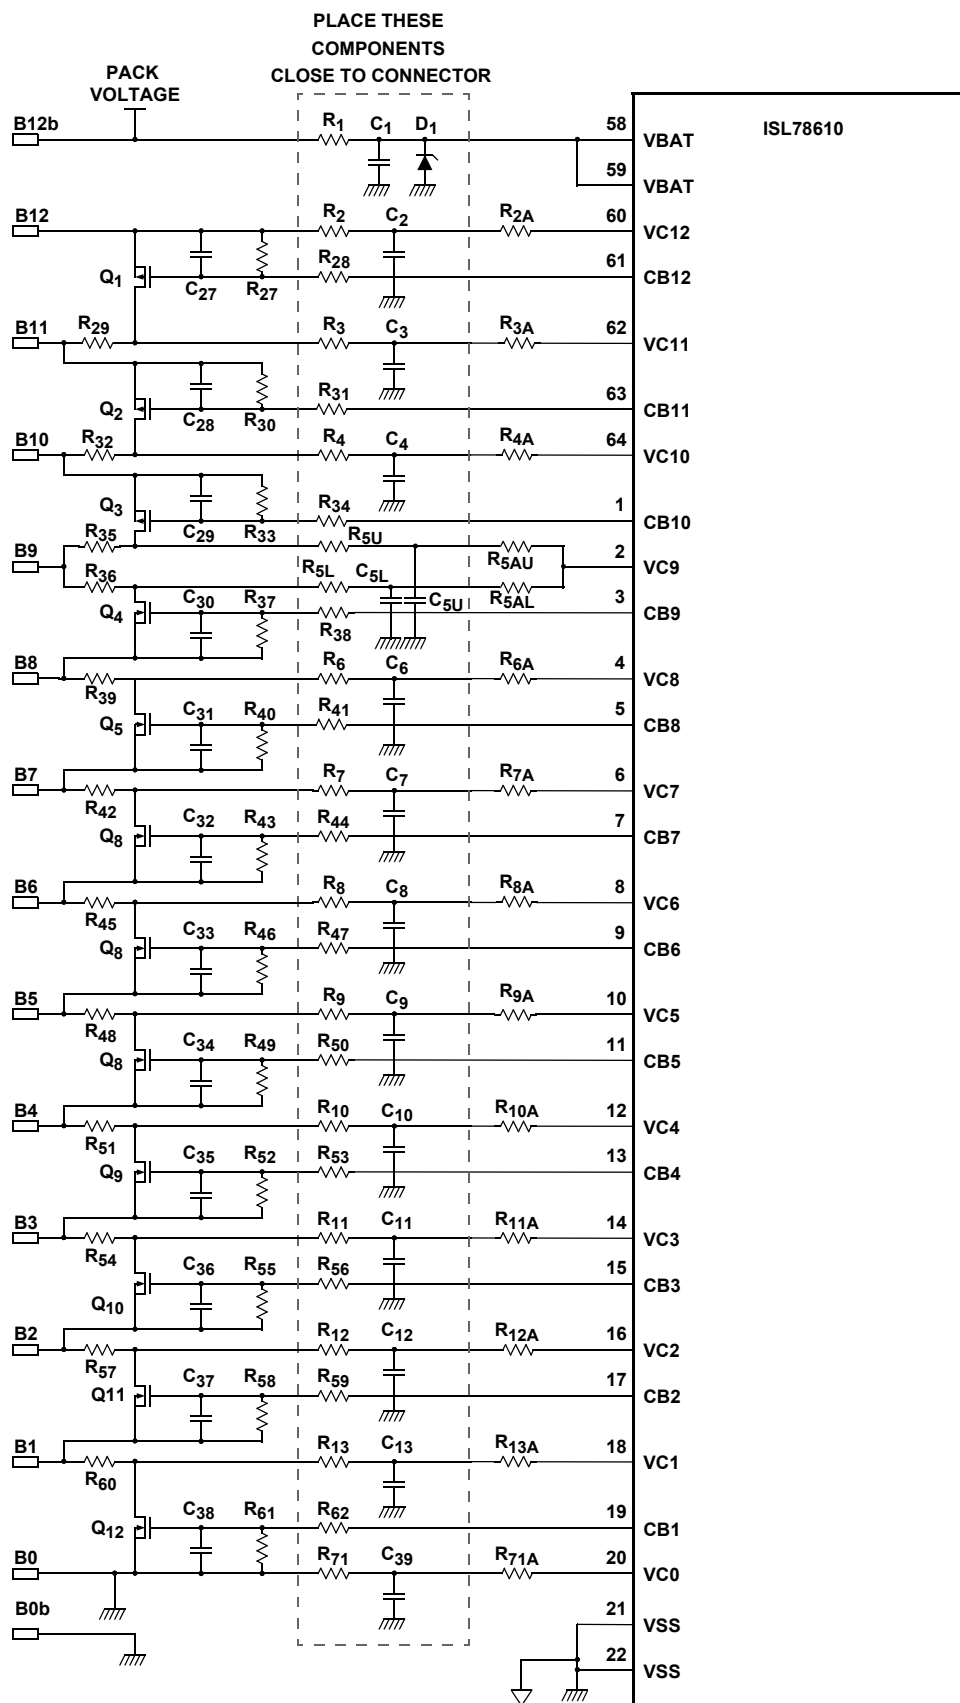
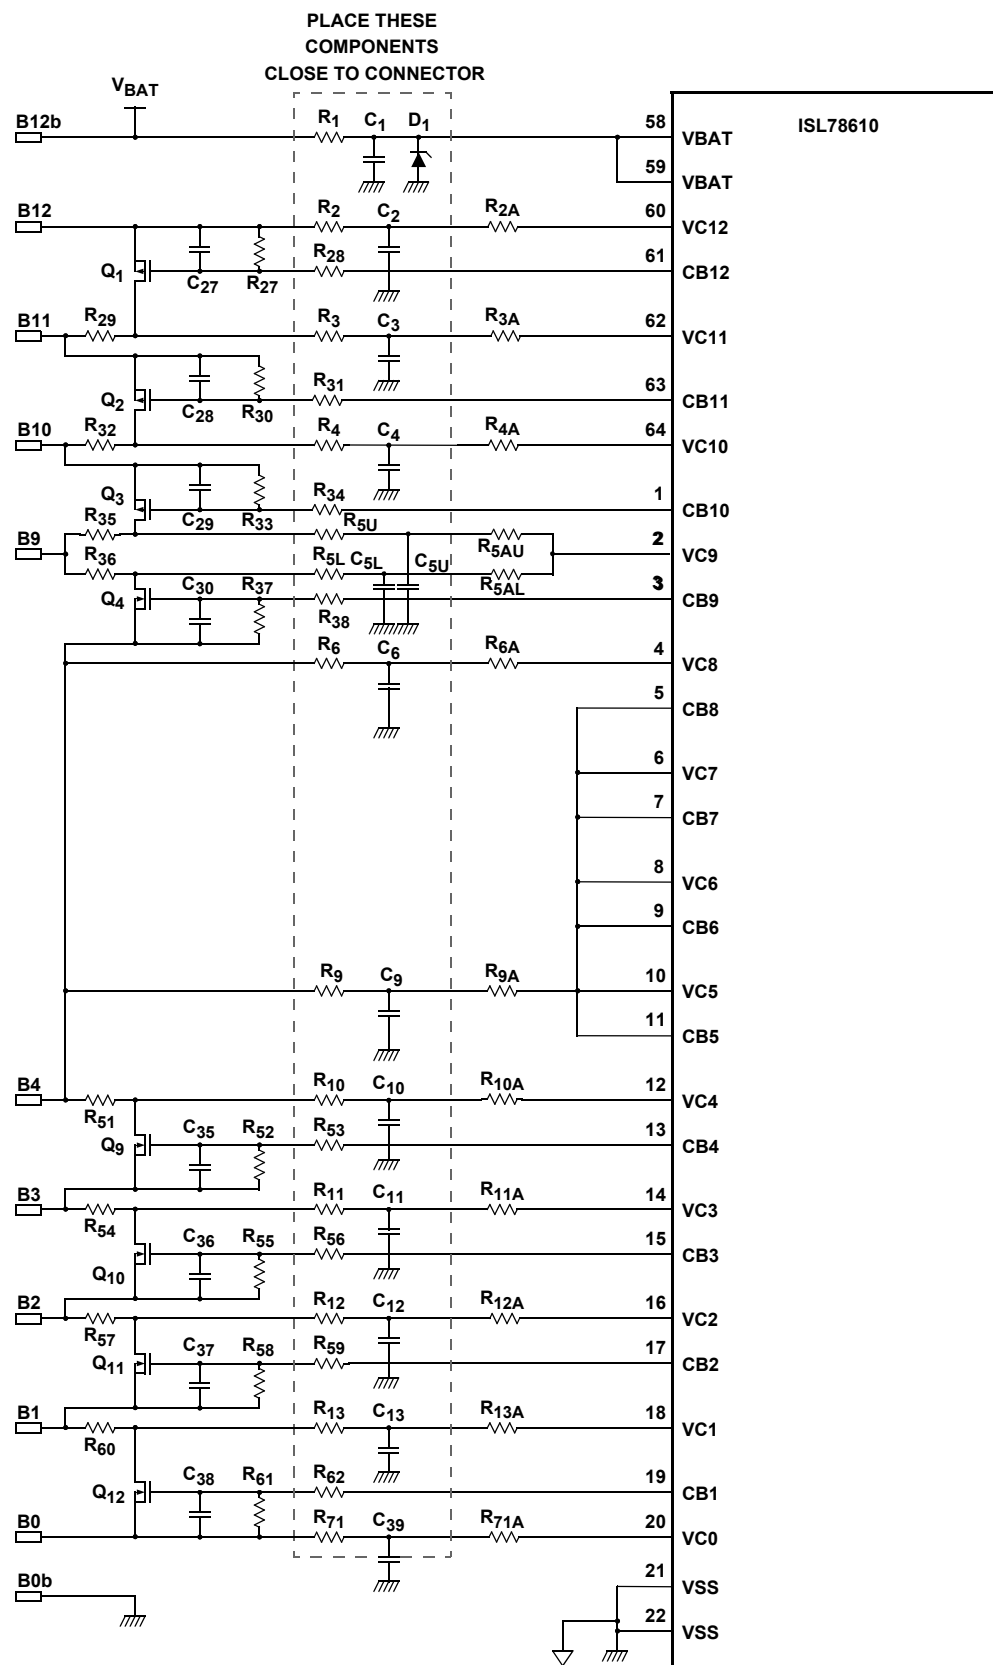

FIGURE 51. TYPICAL APPLICATIONS CIRCUIT – BATTERY CONNECTION CIRCUITS
FIGURE 56. TYPICAL APPLICATIONS CIRCUIT – BATTERY CONNECTION CIRCUITS, SYSTEM WITH 8 CELLS
Typical applications circuits are shown in Figures 51 to 57. Table 11 on page 38 contains recommended component values. All external (off-board) inputs to the ISL78610 are protected against battery voltage transients by RC filters. They also provide a current limit function during hot plug events. The ISL78610 is calibrated for use with 1k $\Omega$  series protection resistors at the cell inputs.  $V_{BAT}$  uses a lower value resistor to accommodate the  $V_{BAT}$  supply current of the ISL78610. A value of 27 $\Omega$  is used for this component. As much as possible, the time constant produced by the filtering applied to  $V_{BAT}$  should be matched to that applied to the Cell 12 monitoring input. Component values given in Table 11 produce the required matching characteristics.
Figure 51 on page 31 shows the standard arrangement for connecting the ISL78610 to a stack of 12 cells. The cell input filter is designed to maximize EMI suppression. These components should be placed close to the connector with a well controlled ground to minimize noise for the measurement inputs. The balance circuits shown in Figure 51 provide normal cell monitoring when the balance circuit is turned off and a near zero cell voltage reading when the balance circuit is turned on. This is part of the diagnostic function of the ISL78610.
The component notations and values used in Figures 56 and 57 are the same as those used in Figures 51 to 54.
**TABLE 11. RECOMMENDED COMPONENT VALUES FOR FIGURES (Figures 51 through 57)**
Referring to Figure 51 on page 31 (battery connection circuits), the basic input filter structure is composed of resistors  $R_2$  to  $R_{13}$ ,  $R_{71}$ , and capacitors  $C_2$  to  $C_{13}$  and  $C_{39}$ . These components provide protection against transients and EMI for the cell inputs. They carry the loop currents produced by EMI and should be placed as close to the connector as possible. The ground terminals of the capacitors must be connected directly to a solid ground plane. Do not use vias to connect these capacitors to the input signal path or to ground. Place any vias in line to the signal inputs so that the inductance of these forms a low pass filter with the grounded capacitors.
A dual point failure in the balancing resistor ( $R_{29}$ ,  $R_{32}$ ,  $R_{35}$ , etc.) of Figure 51 on page 31 and associated balancing MOSFET ( $Q_1$  to  $Q_{12}$ ) can also cause a shorted cell condition. Renesas recommends replacing the balancing resistor with two resistors in series.